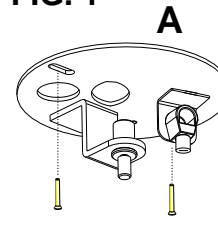

FIG. 2
2. FIG.2 Guide the electrical wires through one of the 2 lateral holes "F" of the metal cone and the steel wire through the central hole of the canopy "B". FIG.3